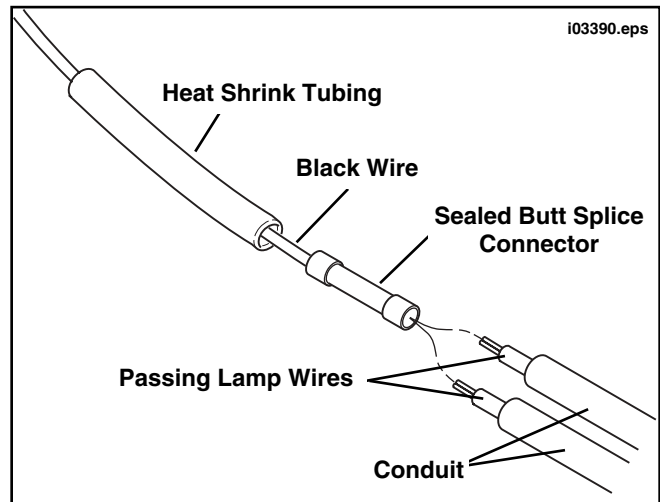

Figure 7. Connect Passing Lamp Wiring
- See Figure 7. Bring both passing lamp wires to the connector. Trim the wires, allowing approximately 1 inch (25 mm) of wire to extend past the butt splice connector. Trim the conduit approximately 1-1/2 inches (38 mm) back from the end of the wire.
22. Refer to Figure 7. Bring both passing lamp wires to the connector. Trim the wires, allowing approximately 1 inch (25 mm) of wire to extend past the sealed butt connector. Trim the conduit approximately 1-1/2 inches (38 mm) back from the end of the wire.